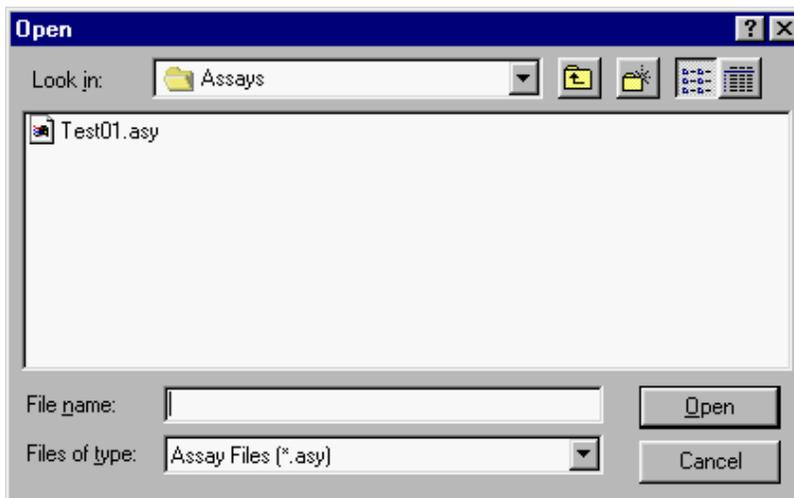

Figure 28. Open Dialog Box
1. Select **Open** from the **File** menu. The Open dialog box is displayed (Figure 28).
1. Select **Edit** from the **File** menu. The Open dialog box is displayed (Figure 28).